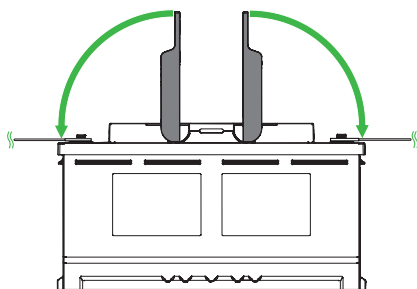

Figure 5.
5. Place the handle covers over the terminals. (Figure 5)